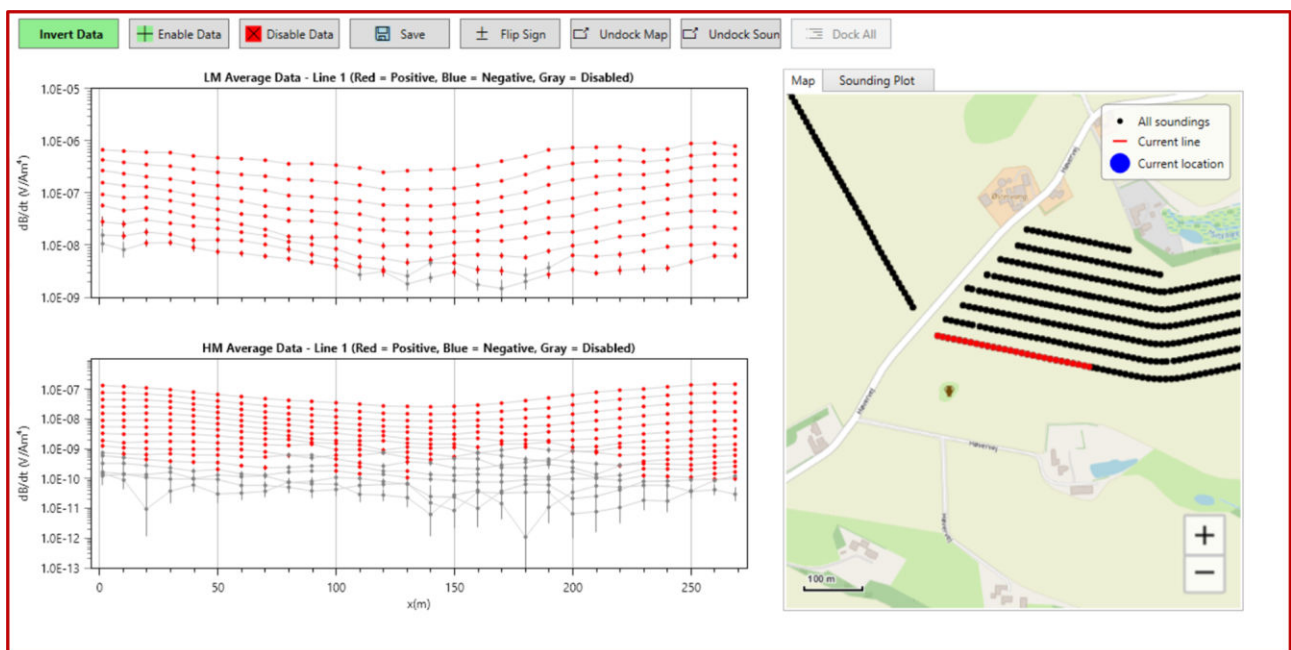

Figure 5: Overview of the home screen after importing (in this case) TEM2Go data.
After import, both Low Moment (LM) and High Moment (HM) data displayed, along with a map showing the location of the acquired measurements (Figure 5).